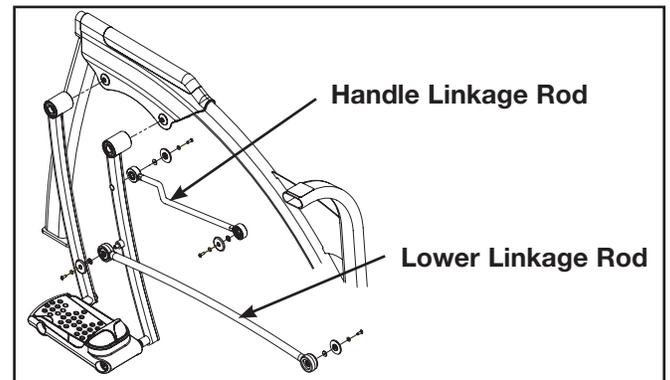

Figure 2
A. Using a 3/16" Allen wrench, remove each SHCS (Socket Head Cap Screw), spacer, cap and washer securing both ends of the lower linkage rod. See Figure 2
A. Using a 3/16" Allen wrench, remove each SHCS, spacer, cap and washer securing both ends of the linkage rod. See Figure 2.